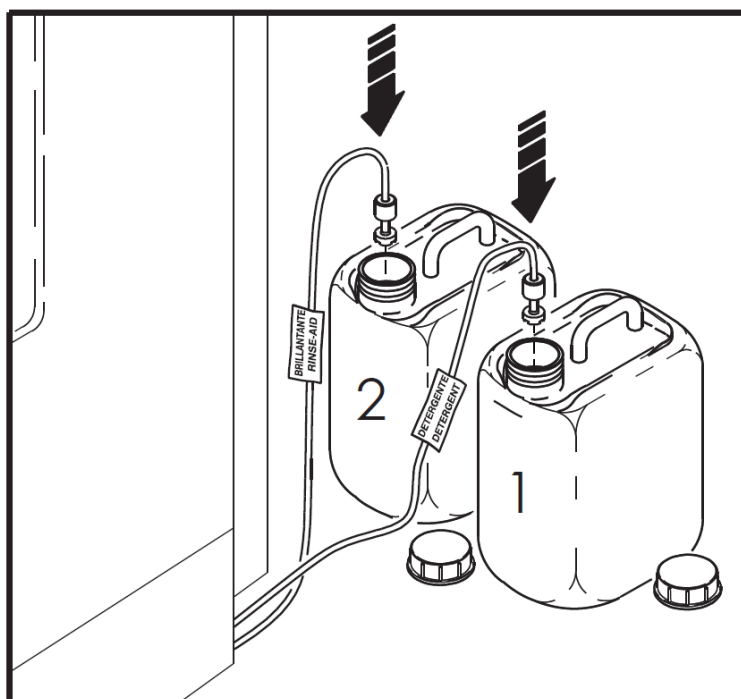

Fig. 22
- *Check the level of rinse aid and detergent in the outer container, and replace if necessary (fig. 22)*